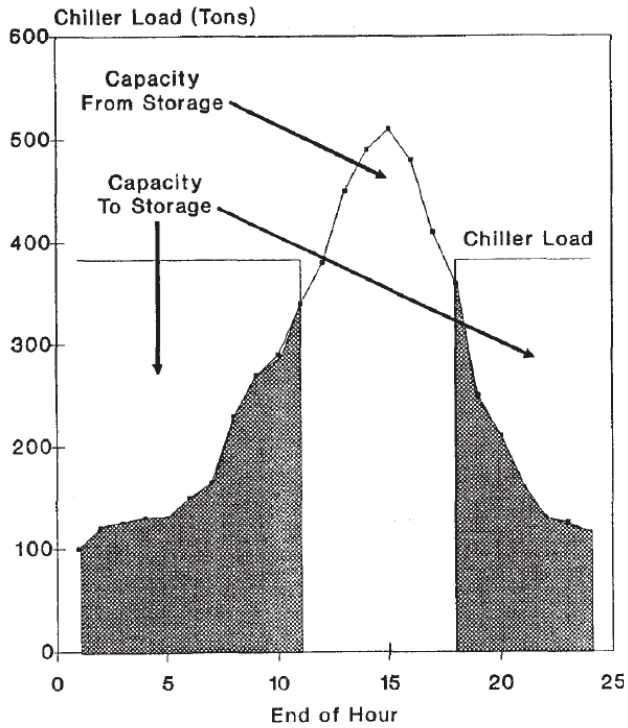

Figure 19.2 Full storage chiller consumption profile.
- ❑ *Figures 19.2 and 19.3 and Tables 19.2 and 19.3 demonstrate the chiller load required to satisfy the cooling needs of the office building presented in Figure 19.1 for the full and partial systems, respectively.*